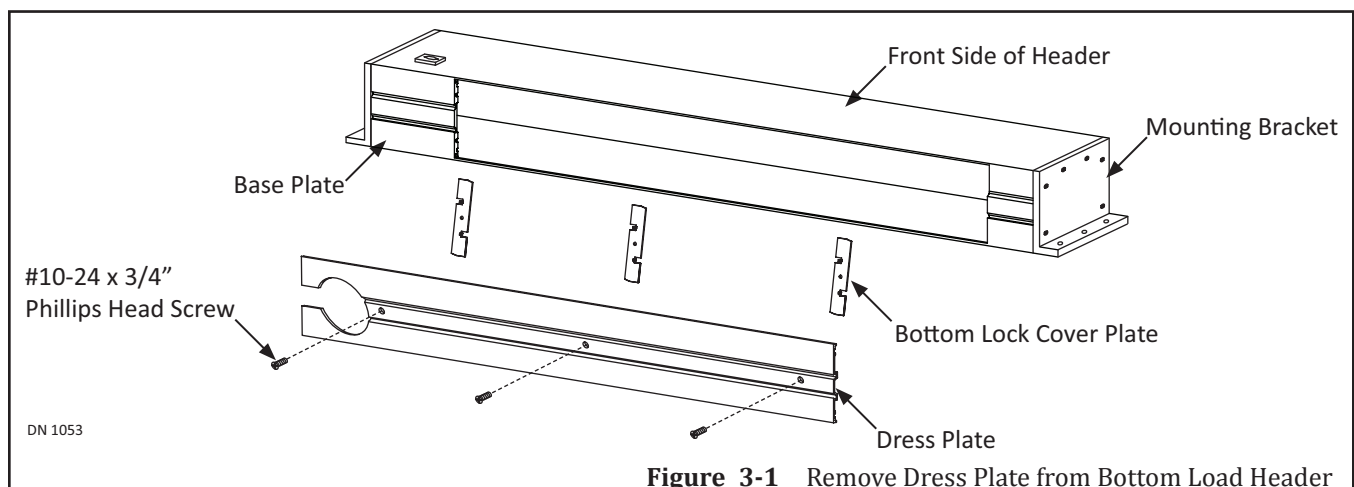

Figure 3-1 Remove Dress Plate from Bottom Load Header
2. Remove #10-24 x 3/4 inch screws and Dress Plate. Set aside. Please see Figure 3-1.